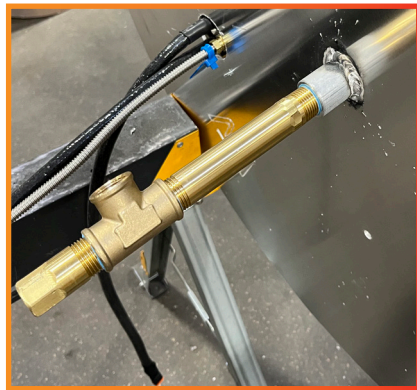

Figure 7: Installing the Drip Leg
3.1 Identify the coupling under the plate and choose the correct drip leg. Apply joint compound, thread sealant, or plumbing tape to the threads of the exposed end of the provided 5" nipple on the drip leg assembly and tighten to the female end of the coupling with a wrench to avoid leaks. Align the tee so it is facing away and perpendicular to the two small holes cut out on the plate. **{See Figure 7}**